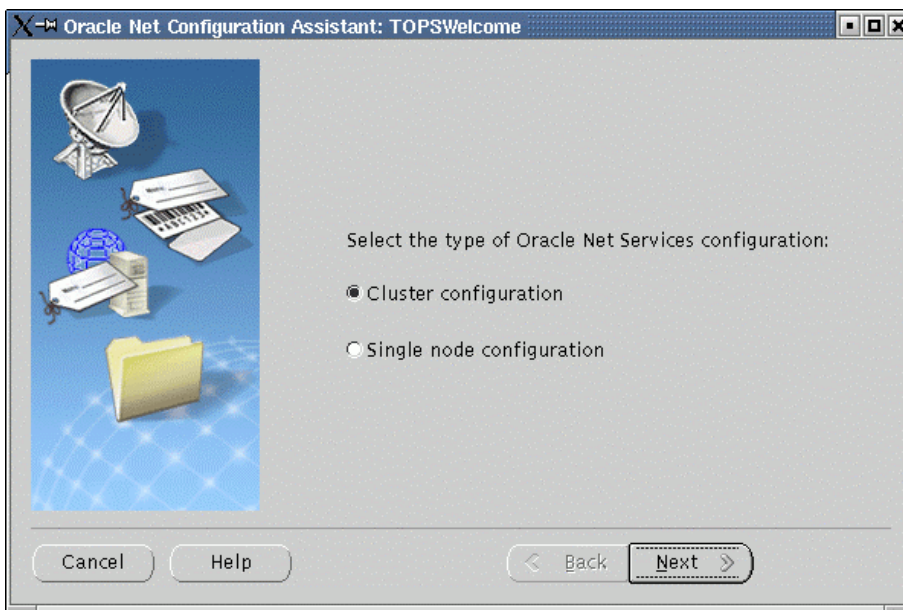

Figure 67. netca – configuration type
1. As oracle user, type `netca` from a shell prompt. The first `netca` screen, shown in Figure 67, asks for the type of configuration. Select **Cluster configuration** and click **Next** to continue.